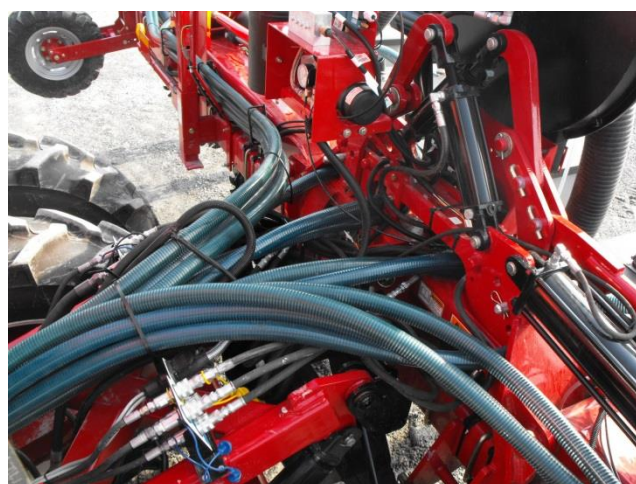

Figure 12M
9. Make sure to well attach the hoses so that they can freely move when lifting and folding maneuvers with the planter [Figure 12M].